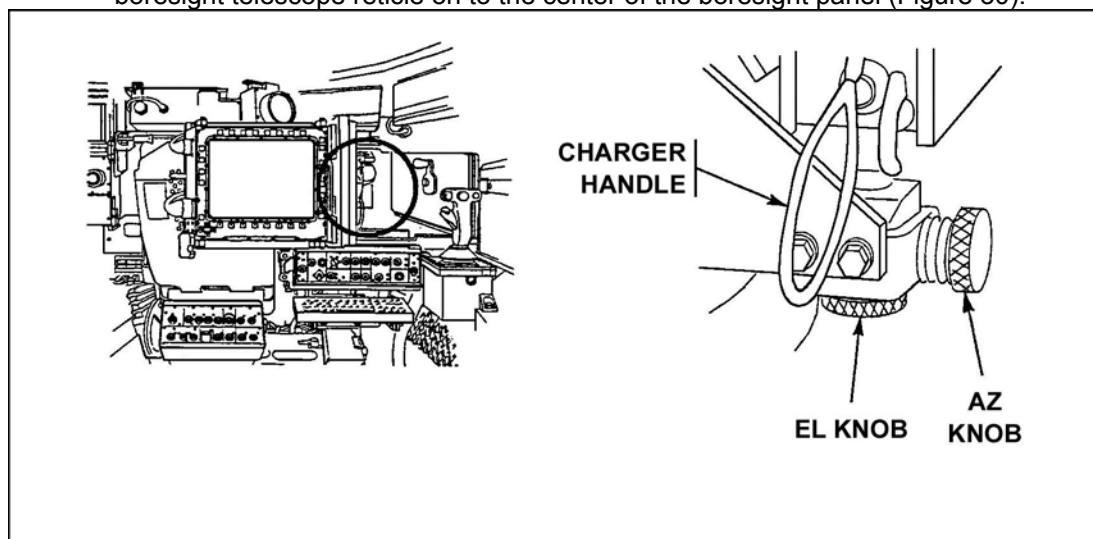

Figure 30. Coax A2 and EL knobs.
- (5) Open the coaxial machine gun access doors.
- (6) Adjust the EL and AZ knobs located on the coaxial machine gun mount to align the boresight telescope reticle on to the center of the boresight panel (Figure 30).